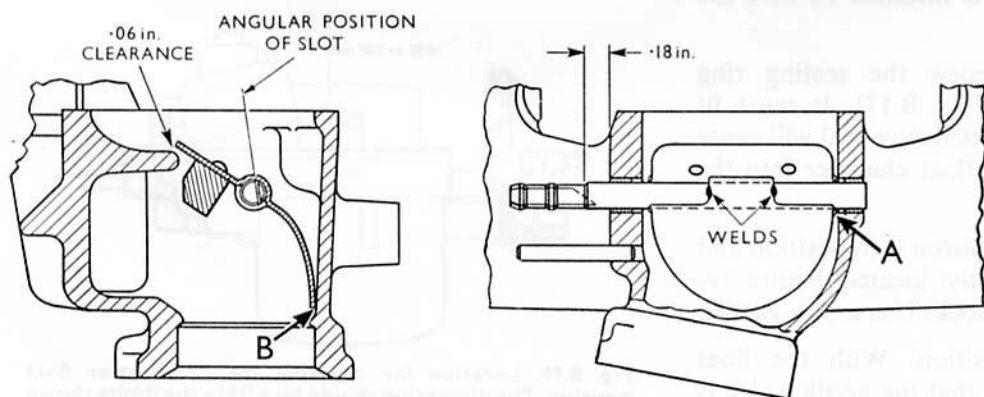

Fig. B.20. Exhaust manifold valve installation details
- (b) Position the valve as shown in Fig. B.20 and scribe on the manifold a line projected from the centre line of the slot in the end of the valve shaft. This line will be a location during the installation of new components.
- (f) Locate the shaft shoulder .18 in. from the manifold, with the valve positioned as shown at 'A' in Fig. B.20.